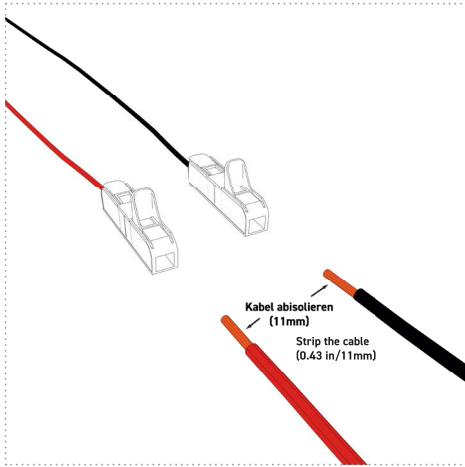

Figure 18
2. Strip the on-board connection cables 11 mm (0.43 in) (Figure 18).